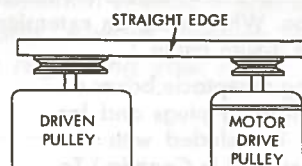

Figure 2
- Make sure all pulleys are tightened securely on their shafts and correctly aligned. Proper pulley alignment may be obtained by holding a straight edge across the flat sides of the pulleys and adjusting to it. (See figure 2.)